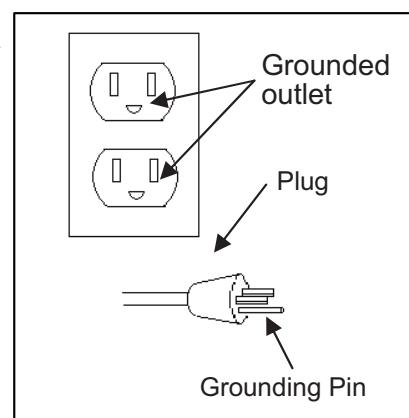

Figure 1
- J. **POWER CORD:** This product is for use on a nominal 120-volt circuit and should be grounded. A cord with a grounding plug as illustrated must be used. Make sure that the product is connected to an outlet that has the same configuration as the plug (see Figure 1). No adapter should be used with this product.